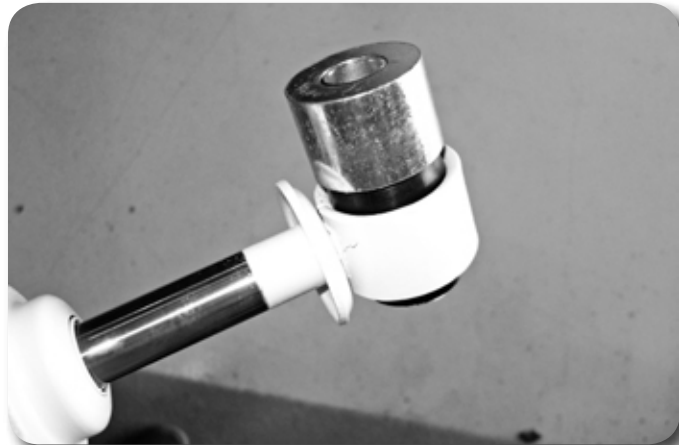

Figure 1
5. The 2-1/4" long sleeves will go into the bottom stabilizer. The large spacer sleeves will need to be pressed over the large diameter 7/8" long spacer sleeves. (Fig 1) This can be done with a vise or simply taping in with a hammer.